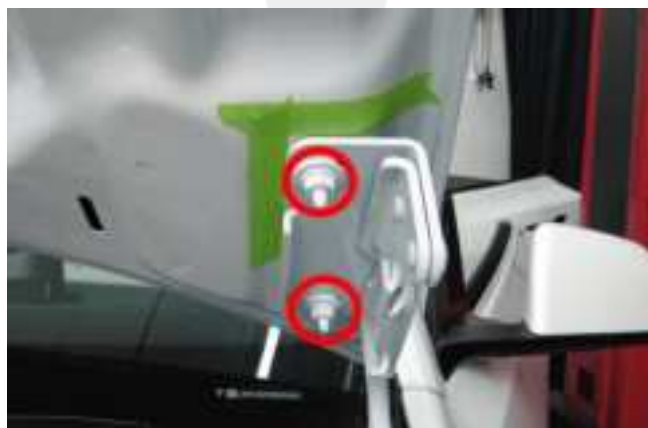

Figure 2 – LH shown, RH similar.
3. Slightly loosen the nuts (x2, 13mm) that attach the hood to the LH hood hinge (Figure 2).